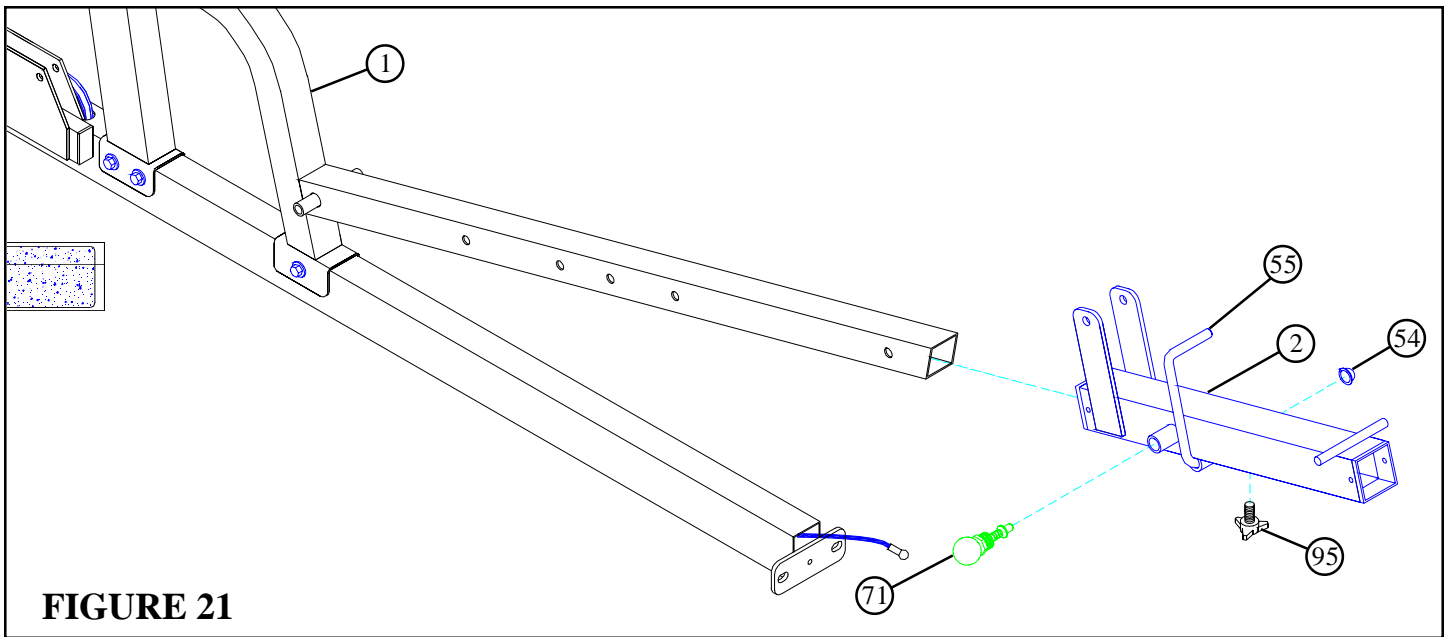

FIGURE 21
- Slide one 1/2" DIA U-PIN (55) through the bushing in the WOLFF SLEEVE (2) then force one 1/2" PAL NUT (54) over end of 1/2" DIA U-PIN (55).
- Slide the WOLFF SLEEVE (2) over the FRAME SUPPORT (1). (**NOTE: Make sure the spring pin barrel is facing as shown in FIGURE 21.**)
- Securely assemble one 3/8" SPRING PIN ASSEMBLY (71) and one THUMBSCREW (95) to the WOLFF SLEEVE (2).